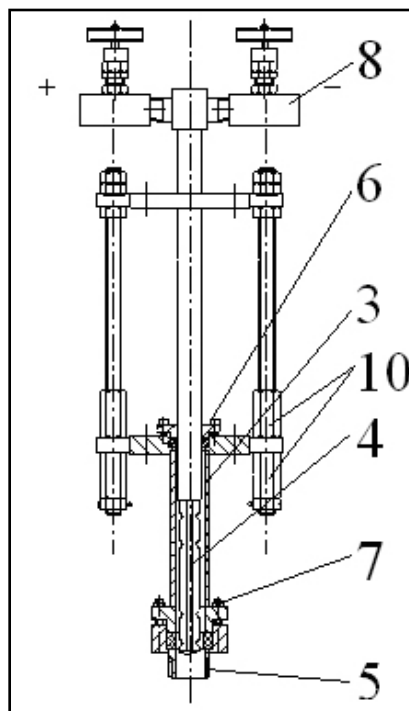

fig 16
10. Verify that the sensor profile [4] is fully retracted in the protection pipe [3]. Check the position of the threaded rod. (see fig. 16)